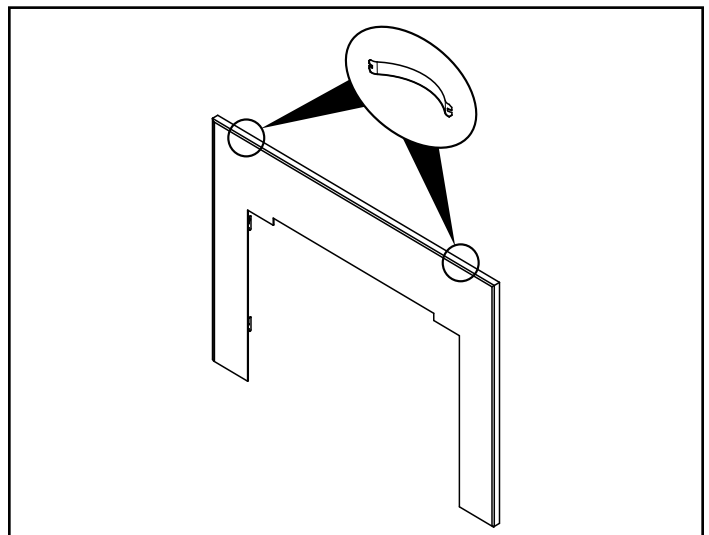

Figure 5.9
4. Install two steel springs at the top on each side and between the flat surround and the assembled trim kit as shown in **Figure 5.9**.